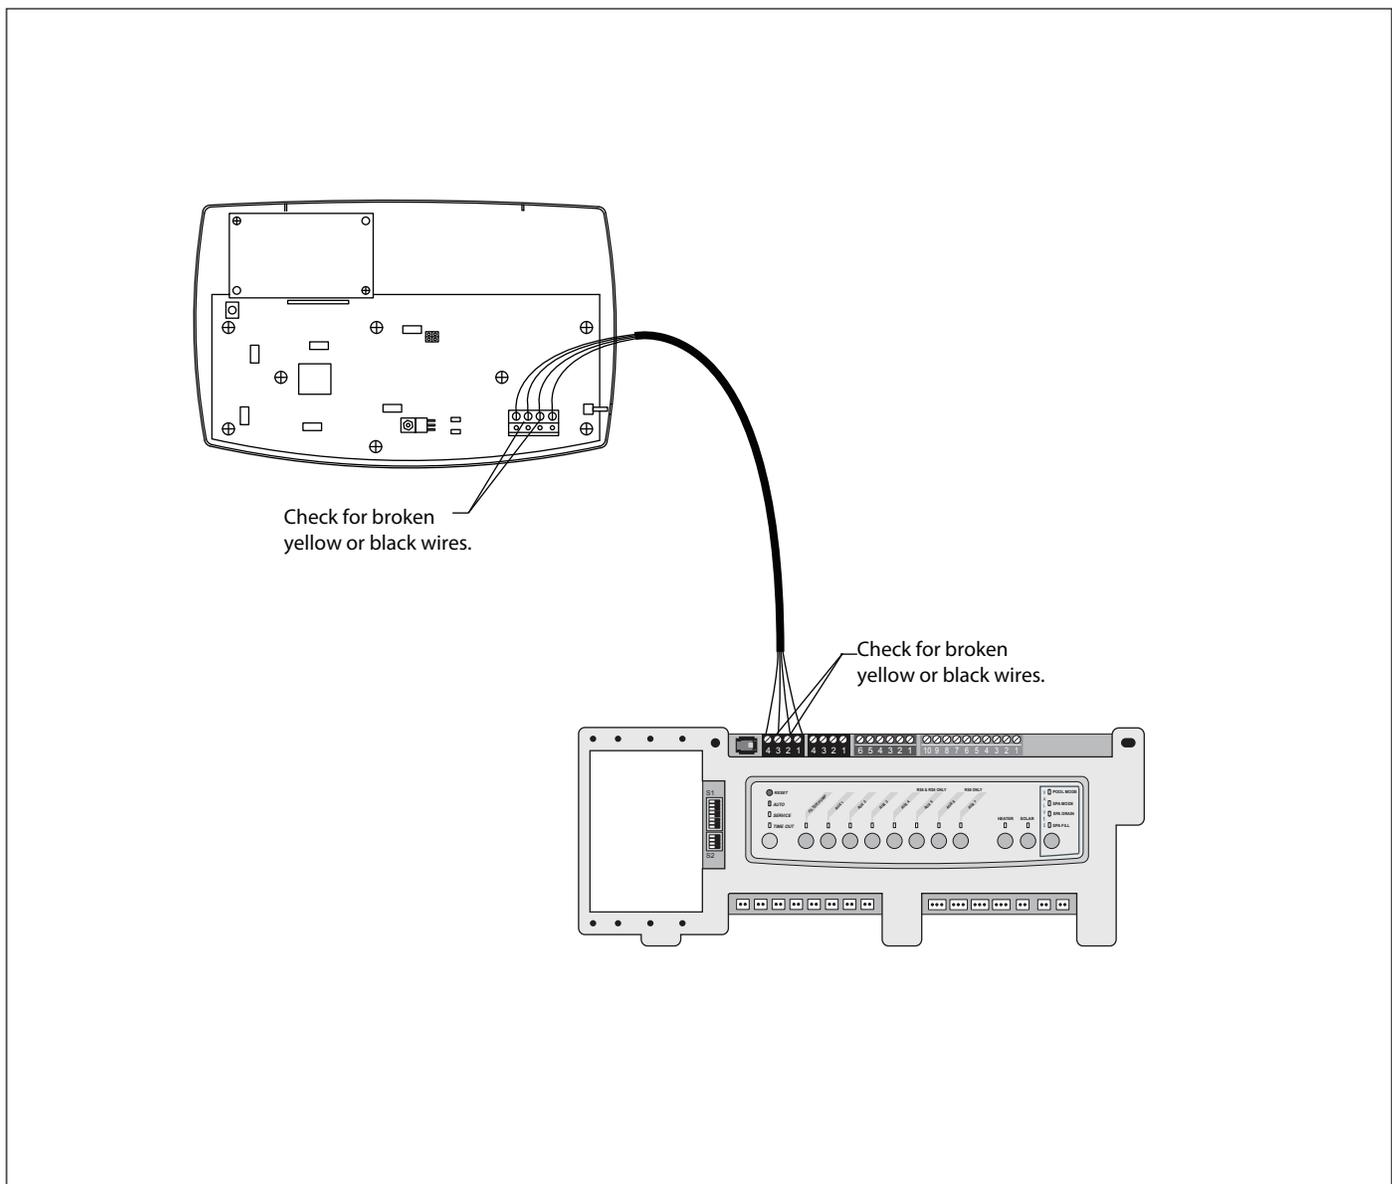

Figure 7. Checking Communication Problems between Control and Power Center PCB
1. Broken communication wire(s). These wires are connected to the red terminal bar at terminals two (2) and three (3) (yellow and black). See Figure 7.
2. The microprocessor was hit by a power surge. Turn off all power to the system. (If the PCB is prior to Revision N, disconnect the nine (9) volt battery.) Wait two (2) minutes and then turn the power on. If this frees up the system, you will need to reset the time and date, except with a Revision N board. Programming will not be lost. It is advisable to install a Surge Protection Kit.